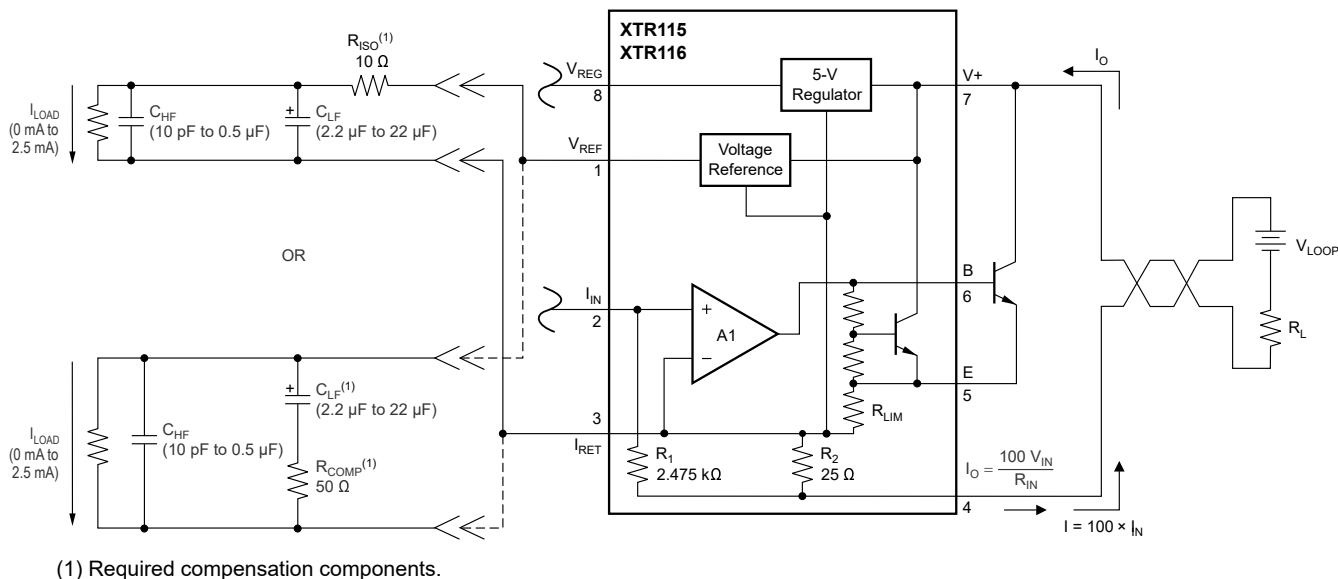

Figure 8-4. Stable Operation With Capacitive Load on V_{REF}
(1) Also see Figure 8-4.
(2) See Section 8.1.1.
Additionally, stability concerns apply to the V_{REF} reference buffer when driving capacitive loads. Figure 8-4 shows that two filtering capacitors are required, one C_{HF} of 10pF to 0.5μF and another C_{LF} of 2.2μF to 22μF. Either a series isolation resistance R_{ISO} or a snubber R_{COMP} is used, depending on application requirements.